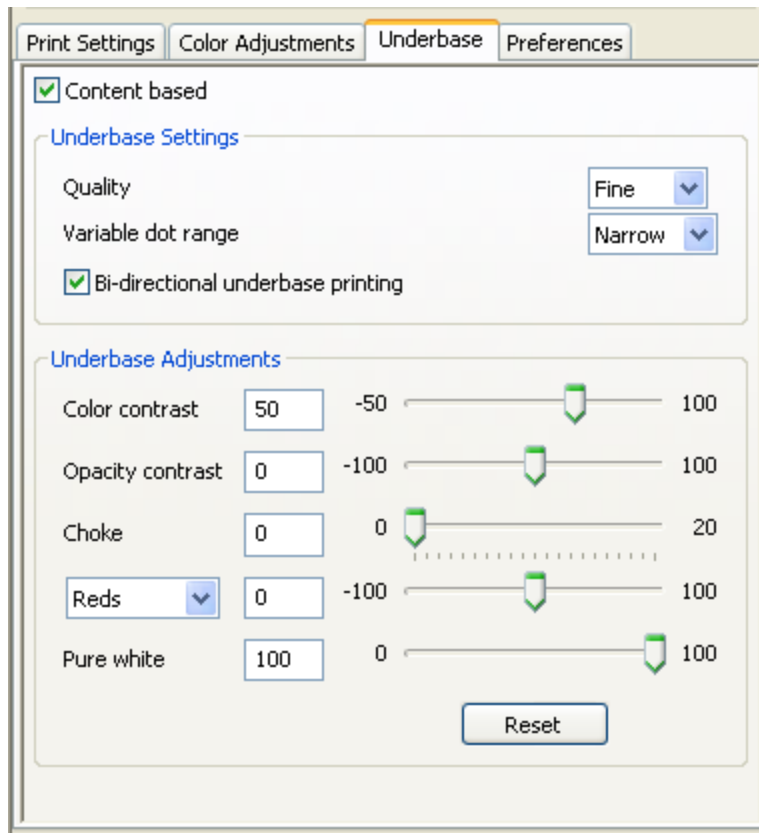
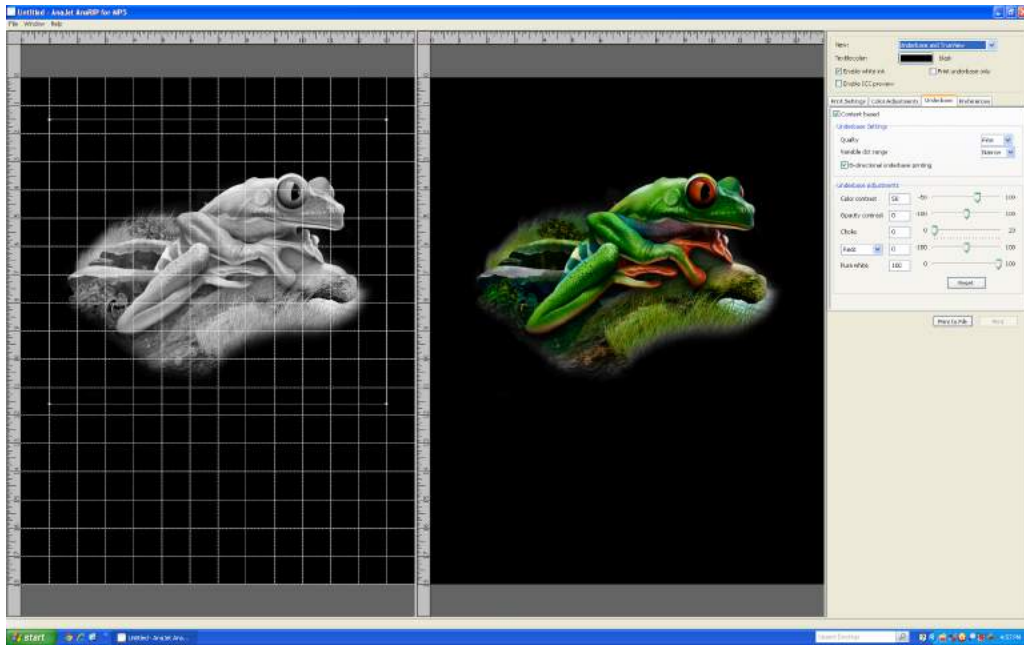
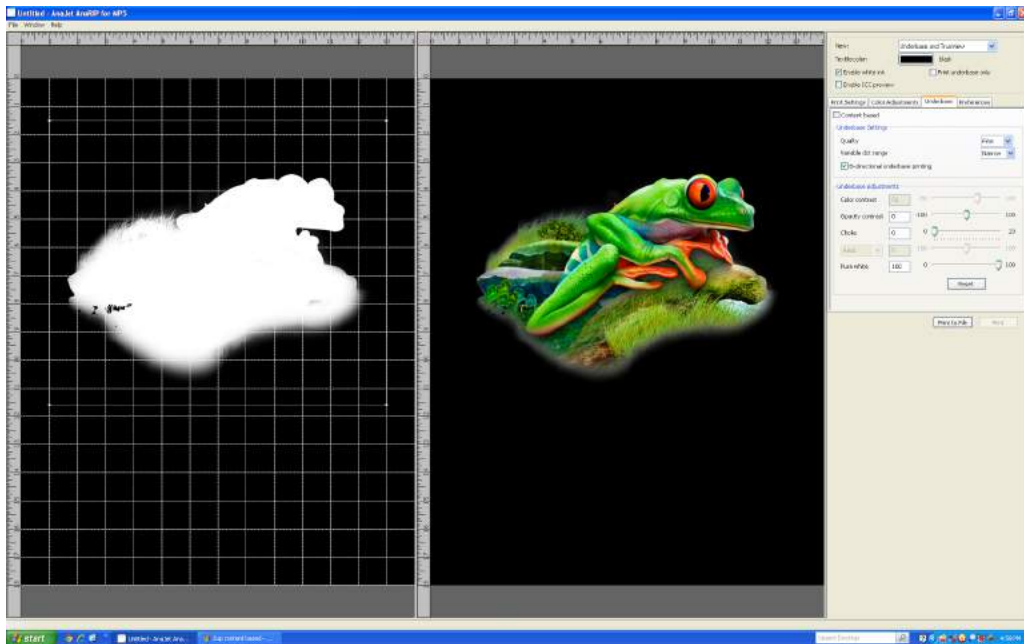

Figure 6.5a: Underbase Tab Settings
Figure 6.5b: Content Based Checked
Figure 6.5c: Content Based Unchecked
- By default the Content based checkbox will be checked and your Quality should be set to Fine. the Variable Dot Range will be set to Narrow. The Bi-directional underbase printing checkbox will be checked for optimum speed when printing the underbase . (Figure 6.5a) Content based is a tool to help minimize costs by using less white ink by putting less white in under the darker colors of your image. To create a solid white ink underbase click off the Content Based checkbox. The more white ink is behind the colors the brighter the colors will be on your printed image, (Figure 6.5b and Figure 6.5c) but it is not necessary to have solid white behind all of the colors to produce a commercially acceptable finished product.